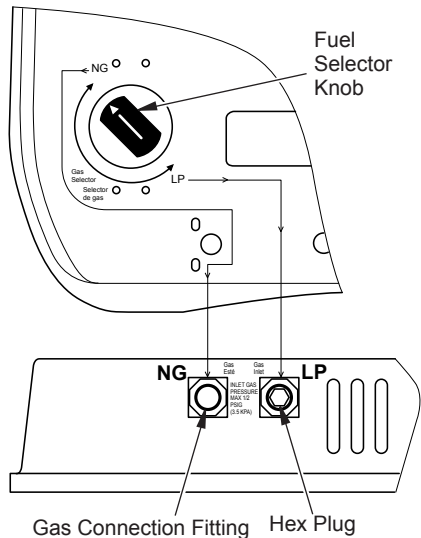

Figure 12 - Settings for Natural Gas Selection
1. Remove top screw from cover plate located on back of heater (see Figure 12). Rotate to expose fuel selection device.
2. For NATURAL GAS, press knob using a flat screwdriver with a blade with thickness of a quarter and turn knob clockwise until the knob locks into the NG position (see Figure 12). Fuel selection device must be locked in the NG position. Do not operate heater between locked positions!
4. Remove hex plug (with wrench provided) from natural gas inlet of regulator (see Figure 12). Install hex plug into LP inlet of regulator. Install gas line into NG inlet of regulator. Use thread sealant to ensure that there are no leaks.
4. Remove hex plug (with wrench provided) from propane/LP gas inlet of regulator (see Figure 12). Install hex plug into NG inlet of regulator. Install gas line into propane/LP inlet of regulator. Use thread sealant to ensure that there are no leaks.